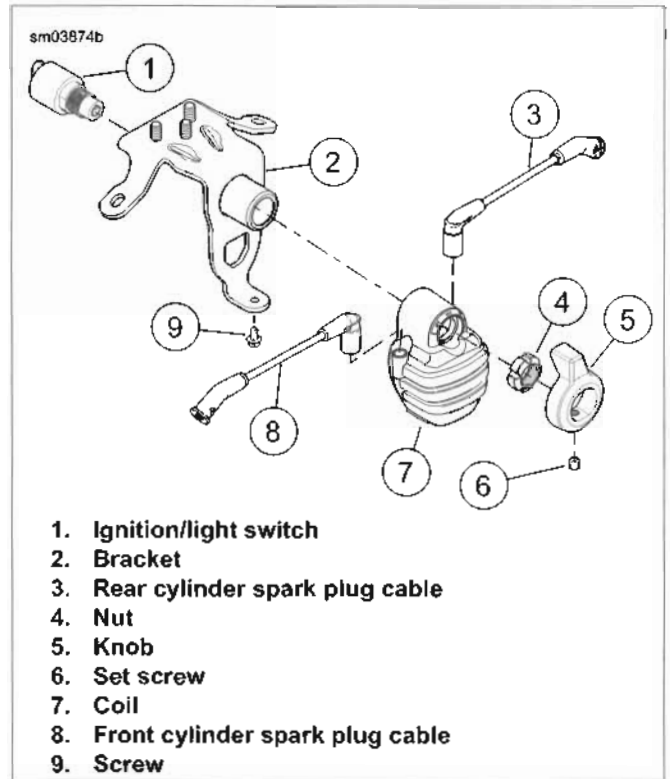

Figure 7-76. Ignition/Light Switch: FXSB
3. See Figure 7-76. Remove spark plug cables (3, 8) from coil.
4. Loosen set screw (6) and remove knob (5).
5. Remove nut (4) using IGNITION SWITCH SPANNER WRENCH (Part No. HD-48904).
6. Remove screw (9).
2. See Figure 7-76. Position coil (7) on bracket (2). Install screw (9). Tighten to 96-120 in-lbs (10.9-13.6 Nm).
3. Clean threads of nut (4). Apply LOCTITE 243 MEDIUM STRENGTH THREADLOCKER AND SEALANT (blue).
4. Install nut (4) using IGNITION SWITCH SPANNER WRENCH (Part No. HD-48904). Tighten nut to 140-160 in-lbs (15.8-18.1 Nm).
5. Install knob (5). Tighten set screw (6).